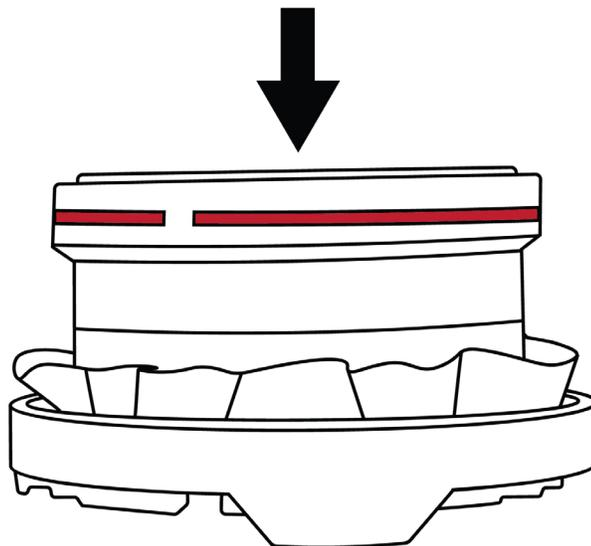

Figure 5 Place red-marked adapter
7. Place the red-marked part of the adapter with the marking line upwards and on top of the soil sampling ring (Figure 5).